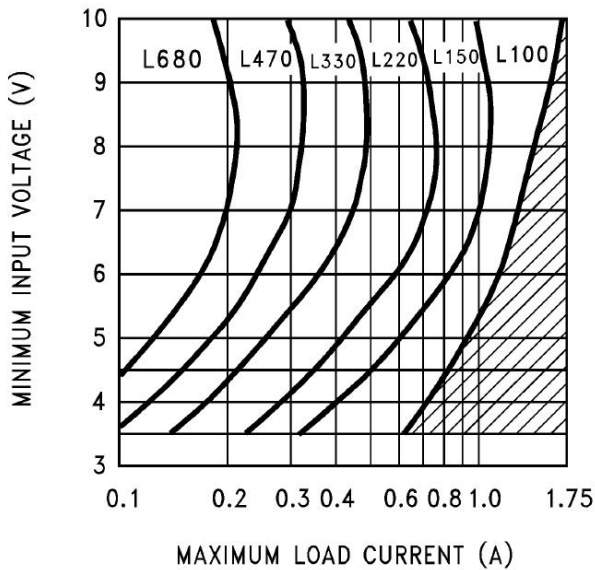

FIGURE 7. LM2577-12 Inductor Selection Guide
1. For 12V or 15V output From Figure 7 (for 12V output) or Figure 8 (for 15V output), identify inductor code for region indicated by $V_{IN(min)}$ and $I_{LOAD(max)}$ The shaded region indicates conditions for which the LM2577 output switch would be operating beyond its switch current rating.